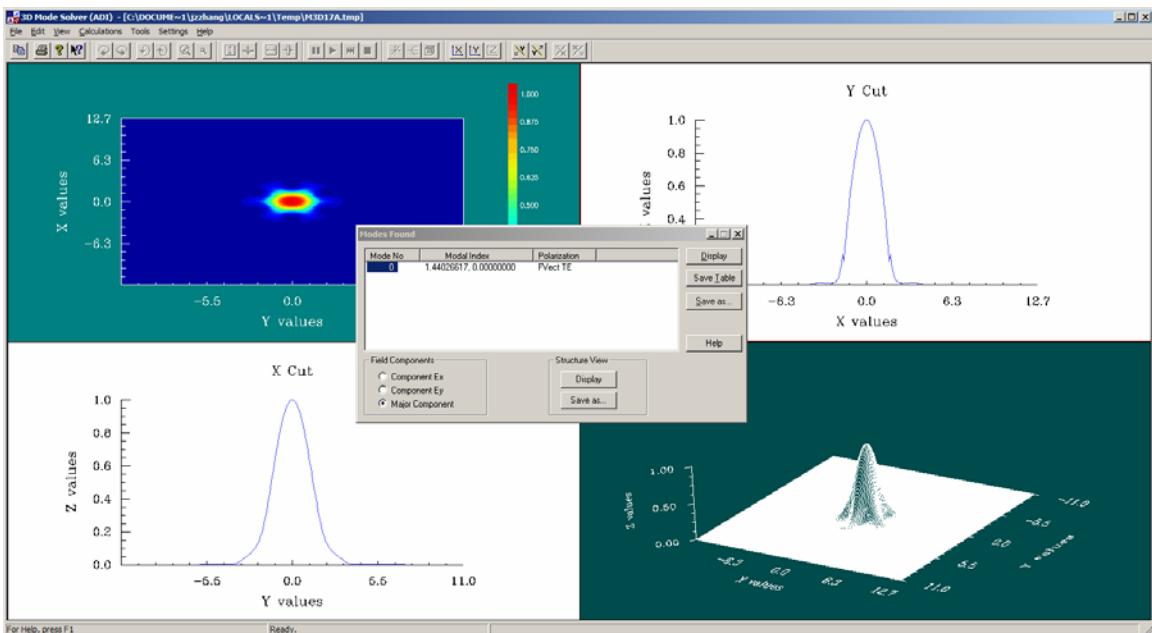

Figure 14 3D mode solver results window
- 6 Select “**Calculate ADI**” under simulation menu. Click **Run** button to start the mode analysis. 3D mode solver resulting window appears (see figure 14).